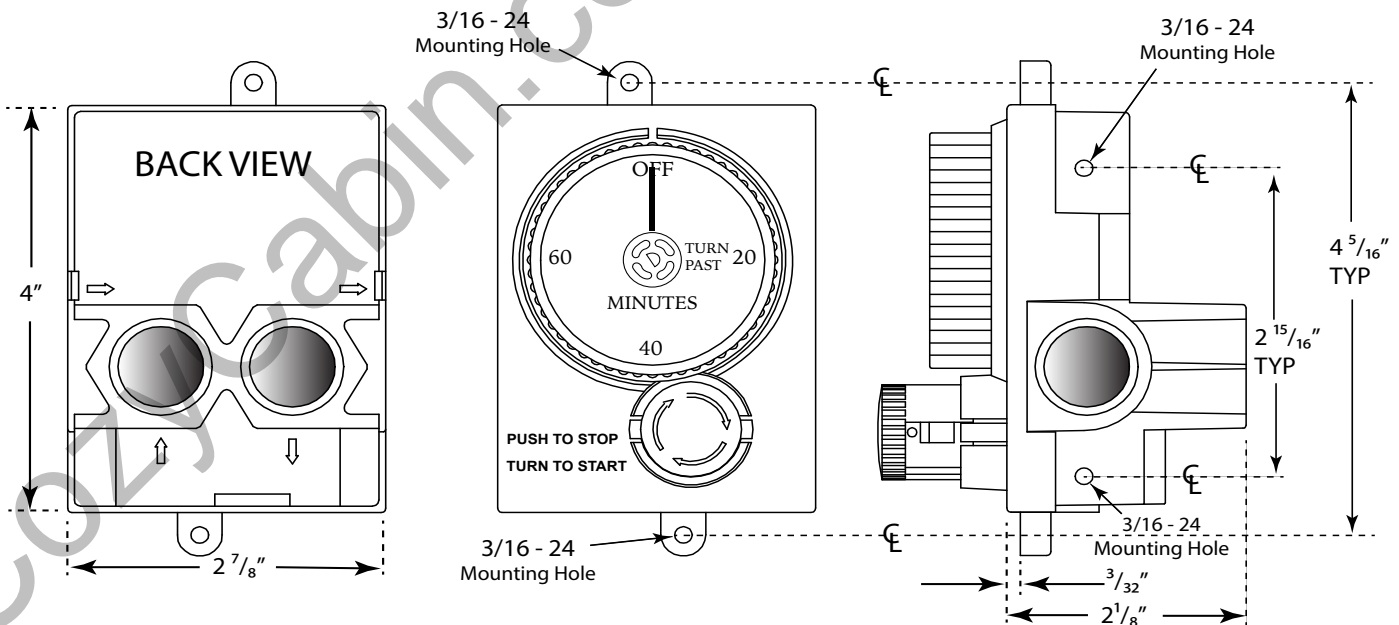

Fig. 1 ESTOP1-0H Gas Timer mounting hole locations applicable to both models.
The ESTOP1-0H Gas Timer has the ability to be mounted from the side of the body, using the four (4) provided holes (two mounting holes per side) or using the two mounting hole tabs at the top and bottom of the body when facing forward. Each mounting hole uses 3/16 - 24 machine screws to secure it into position. **Note:** We recommend using stainless steel screws for any outdoor applications. See Fig. 1 for details.